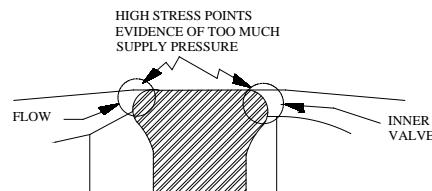

Figure 7
- An example is shown in Figure 7 of what happens to the inner valve when considerably more instrument supply pressure is put into the instrument than is necessary. **Note: This type of pressure could and will shorten the life of the inner valve if not damage it.**